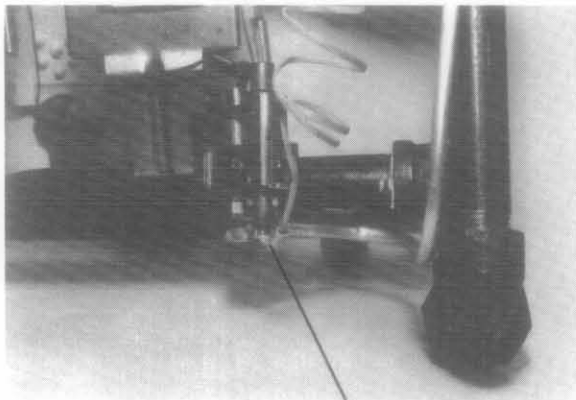

Fig. 4
- 2) Pull out on the retaining clip holding cartridge. See Figure 4.